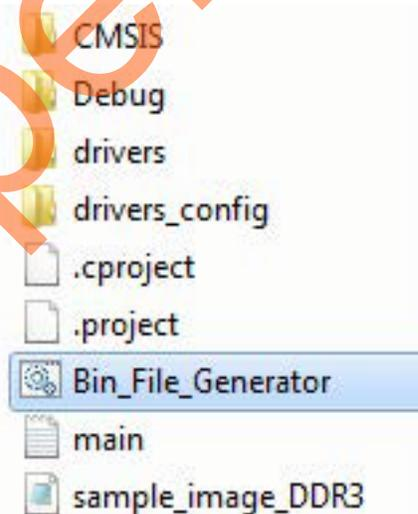

Figure 2 • Adding SoftConsole Installation Path
3. Double-click the batch file **Bin-File-Generator.bat** located at: `SoftConsole/CodeShadowing_LPDDR_MSS_CM3/Sample_image_LPDDR` folder, as shown in Figure 2.